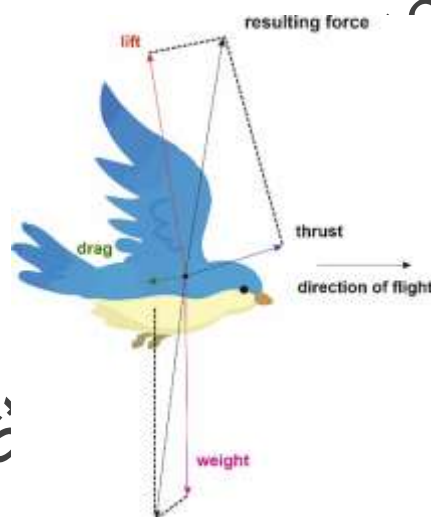

Figure 4.3: Aerodynamic forces on flying bird
- i. **Lift:** Lift is the upward force that counteracts gravity and allows the drone to become airborne. It is typically generated through the rotation of rotors (in the case of multirotor) or the shape of wings (for fixed-wing drones **figure 4.3**).